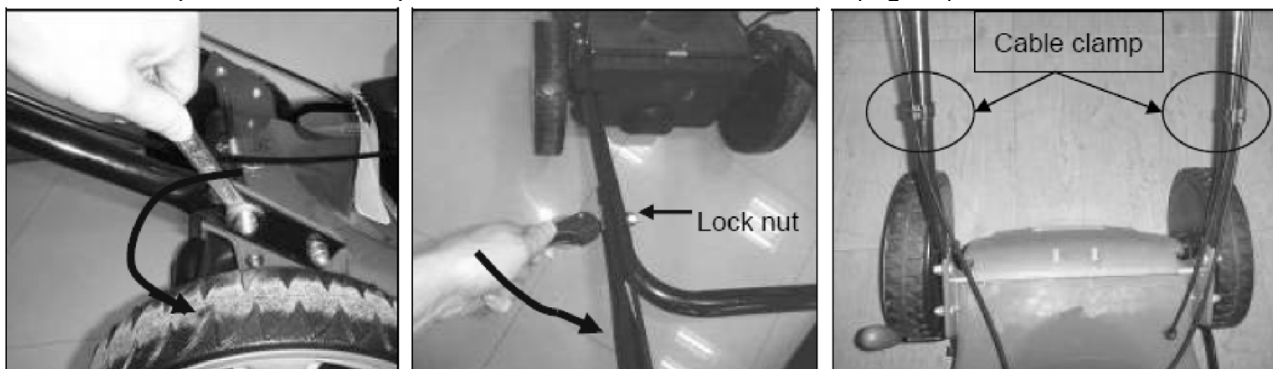

Fig. 2A Fig. 2B Fig. 2C
1. Fix the lower handlebar on the body of the unit with a suitable wrench. (Fig.2A)